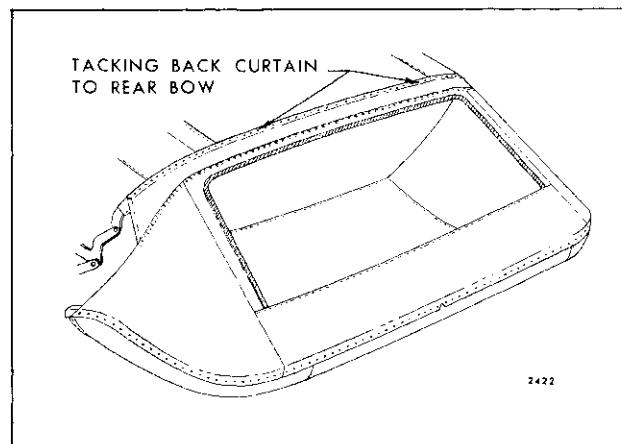

Fig. 13-51—Back Curtain Installed
- Working from body center progressively outboard to right and left sides, tack back curtain to rear bow. Make sure all fullness has been drawn from curtain material (Fig. 13-51). Any excess material at rear bow, may be carefully trimmed.